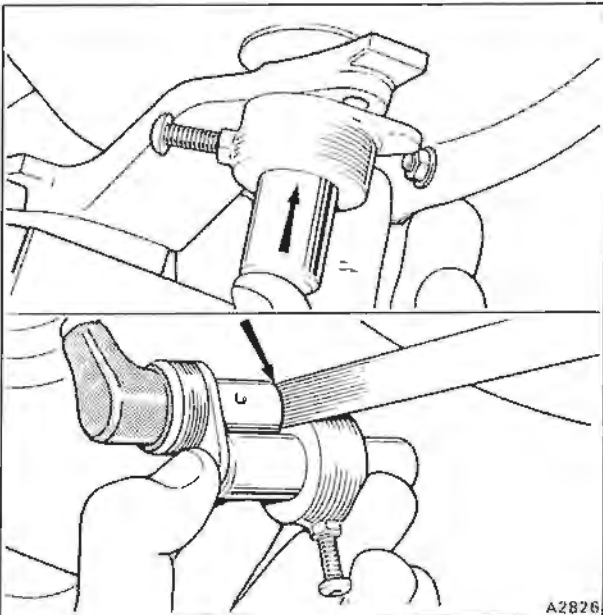

Fig. B4-62 Engine speed sensor air gap
**Engine speed sensor - To remove and fit** (see fig. B4-62)
8. Fit the setting tool RH 12207 through the hole. Ensure that the collar/plate assembly of the setting tool sits on the sensor mounting bracket and that the depth pillar is pushed firmly into contact with the segment (see fig. B4-62). Tighten the locking screw.
sensor (see fig. B4-62).